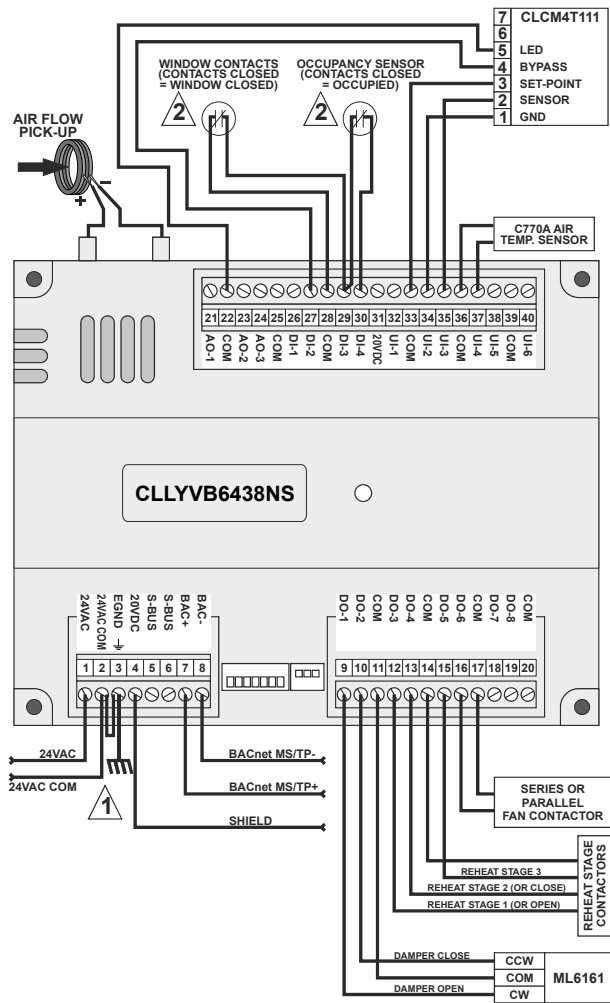
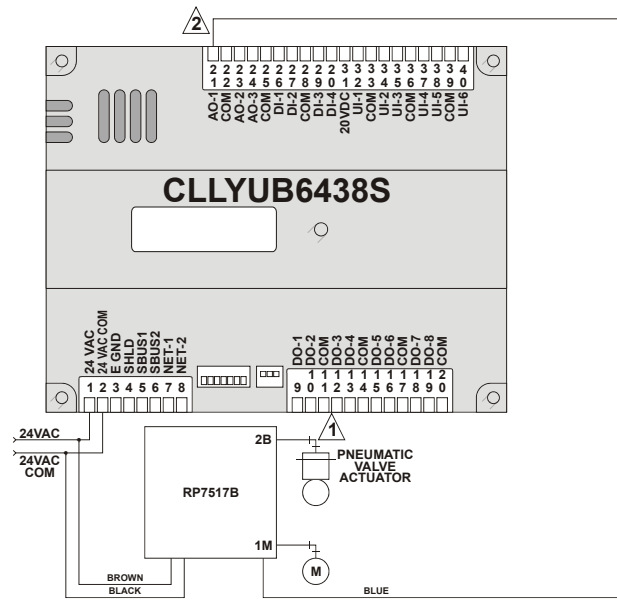

Fig. 13. Controller wiring diagram (CLLYVB6438NS shown) for typical VAV application
Fig. 19. Controller wiring diagram (CLLYUB6438S shown) for RP7517B pneumatic transducer
Fig. 13 through Fig. 19 illustrate controller wiring for the following configurations.
- Typical controller wiring for VAV application using the CLCM4T111 Wall Module and an LF20 Air Temperature Sensor (see Fig. 13).
- Typical controller wiring for a pneumatic transducer, model RP7517B (see Fig. 19).